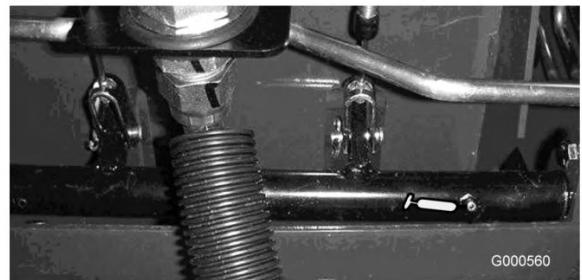

Figure 24
- Brake shaft pivot bearings (5) (Figure 24)